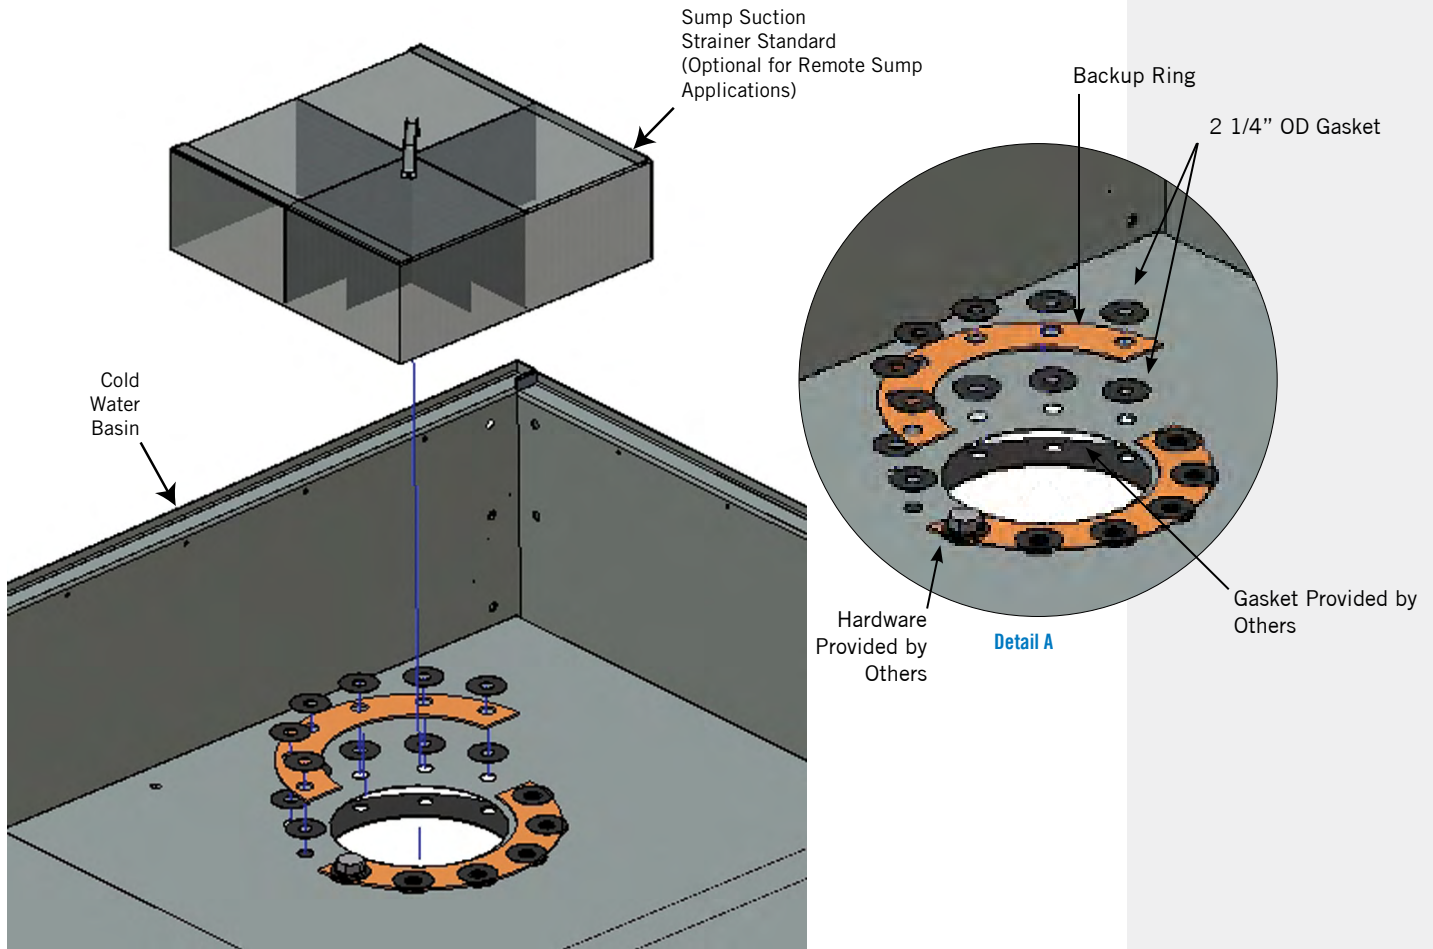

Figure 18. Bottom Water Outlet
1. The bottom connection seal, **Figure 18**, is typical for all bottom outlets, equalizers, and bypasses. Flange mounting hardware and gasket to be supplied by others.